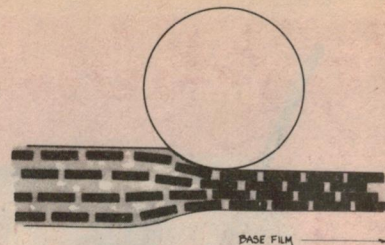

Fig. 8
2. Increase the density of the oxide coating by high-pressure calendering (Fig. 8). Although the coating is formulated to provide a certain theoretical oxide density, the actual coating contains microscopic voids which cause the magnetic density to be lower than this theoretical value. If the dried but uncured coating is passed between a steel roll and a hard, yet compliant roll at high temperature and pressure, a significant densification/thickness reduction takes place which essentially eliminates the coating voids. This permits the application of initial coating thicknesses which would exceed the full-reel limits at the standard length specifications and then employs hard calendering to compact the coating to obtain correct total tape thickness.